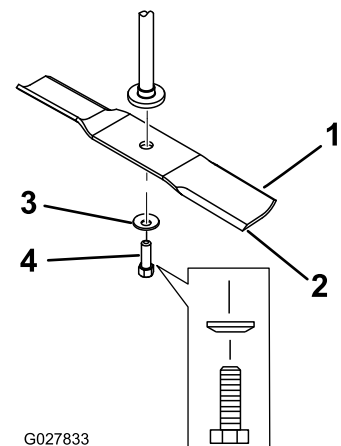

Figure 57
2. Remove the blade bolt, curved washer, and blade from the spindle shaft (Figure 57).
1. Install the blade onto the spindle shaft (Figure 57).
2. Install the curved washer (cupped side toward the blade) and the blade bolt (Figure 57).